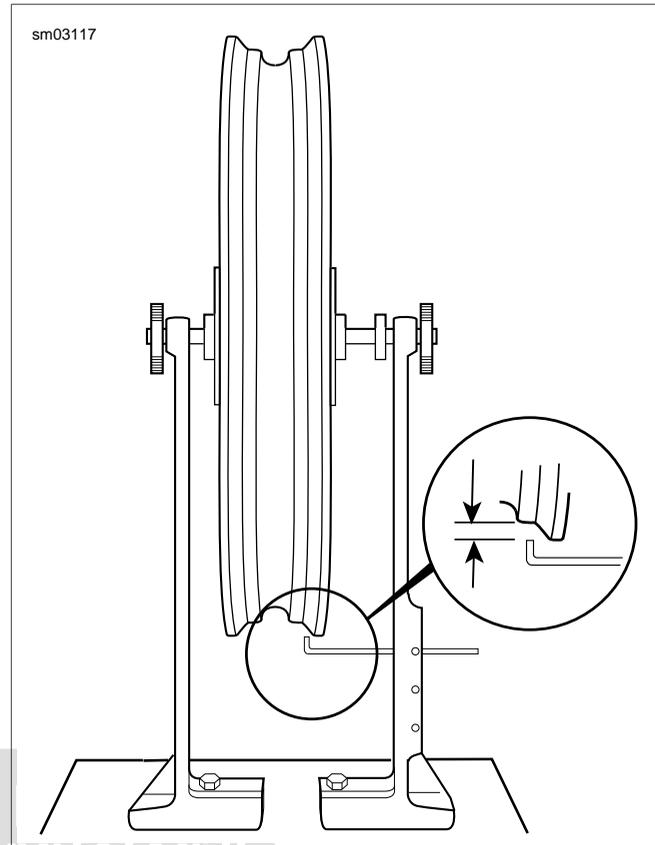

Figure 2-14. Rim Radial Runout
3. See Figure 2-14. Check the rim radial runout as shown. If radial runout exceeds 0.030 in. (0.76 mm), replace the wheel if cast. Retrue the wheel if laced.